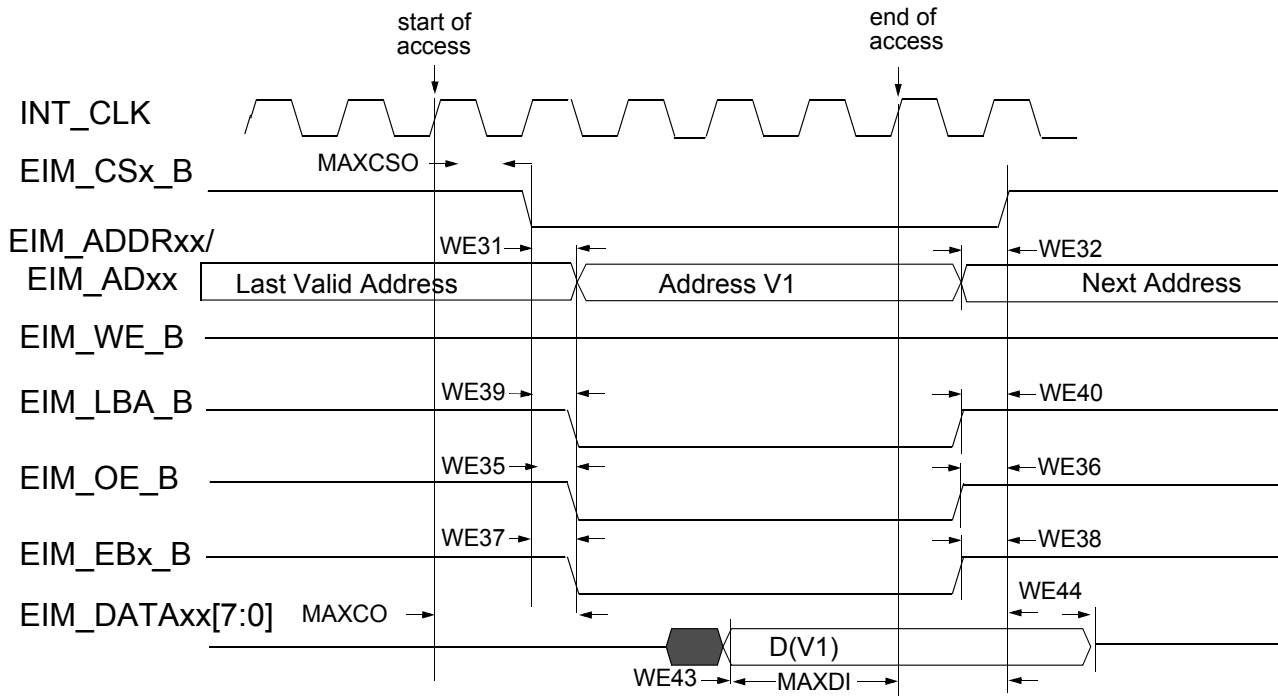
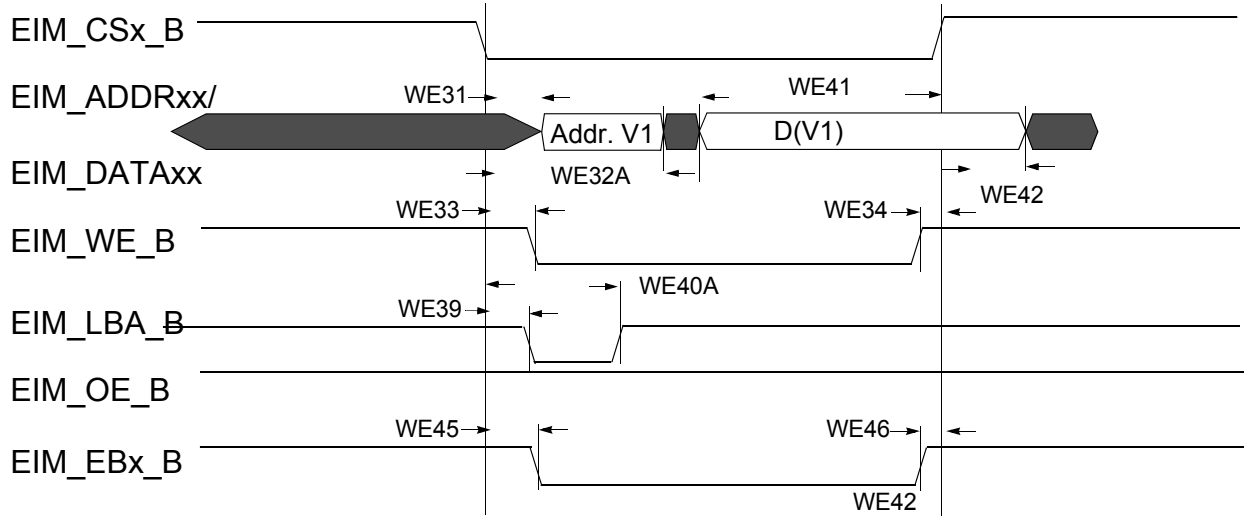

Figure 18. Asynchronous Memory Read Access (RWSC = 5)
Figure 21. Asynchronous A/D Muxed Write Access
Figure 18 through Figure 22, and Table 43 help you determine timing parameters relative to the chip select (CS) state for asynchronous and DTACK EIM accesses with corresponding EIM bit fields and the timing parameters mentioned above.
Asynchronous read & write access length in cycles may vary from what is shown in Figure 18 through Figure 21 as RWSC, OEN and CSN is configured differently. See the *i.MX 6Solo/6DualLite Reference Manual (IMX6SDLRM)* for the EIM programming model.